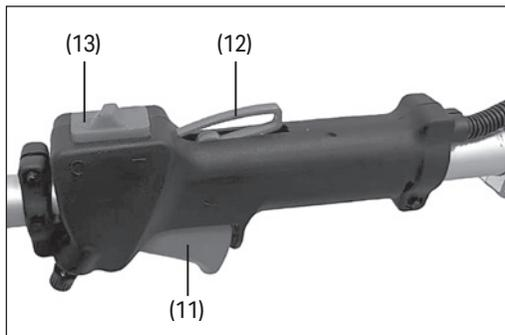
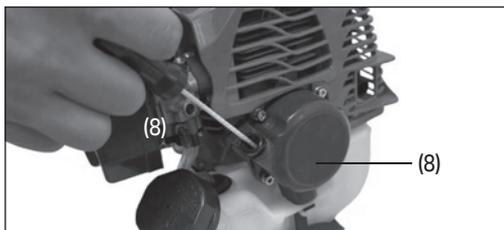

Fig.9
Fig.12
7.2 Starting the Engine (Fig.9 – Fig.12)